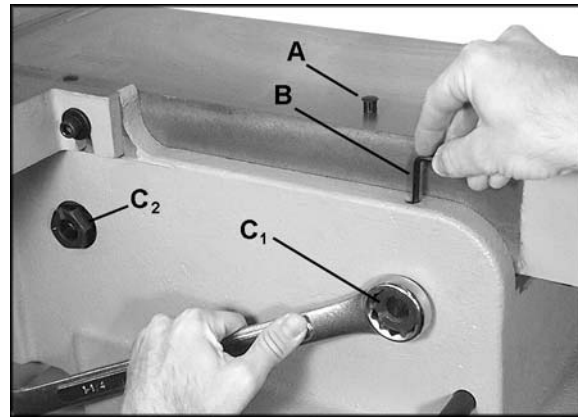

Figure 22
9. Each table has four cam adjustment devices; two in front and two in back. (C, Figure 22 shows one of these).
11. At the area of the table where the adjustment must be made, pry out the cap (A, Figure 22) from the hole.
12. There are two set screws in the hole. Insert a 4mm hex wrench (B, Figure 22) into the hole and loosen the upper set screw by turning the hex wrench counterclockwise. Remove the upper set screw from the hole.
14. Turn the hex nut (C₁, Figure 22) with a 1-1/4" wrench. **This adjustment is sensitive and should be made in small increments.**
NOTE: The rotation is different for left and right hex nuts; the right hex nut (C₁) being turned in Figure 22 will be turned clockwise to raise that area of the table, or counterclockwise to lower that area of the table. The left hex nut (C₂) shown in Figure 22 would be rotated in the opposite manner.
16. When the adjustment is satisfactory, with the tables now coplanar, tighten the lower set screw with the hex wrench (B, Figure 22).
18. Re-insert the cap (A, Figure 22) to keep dust and debris out of the hole.